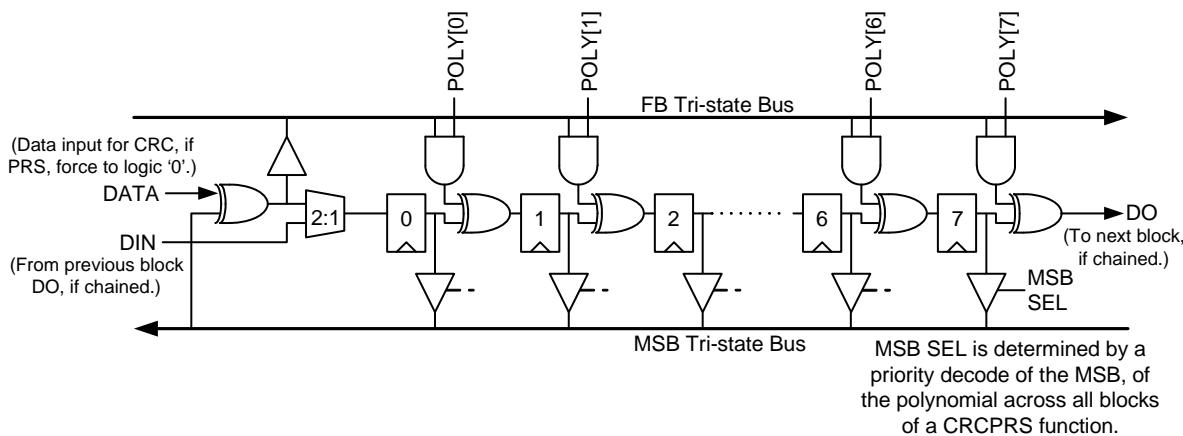

Figure 17-4. CRCPRS LFSR Structure
A Cyclic Redundancy Check/Pseudo Random Sequence (CRCPRS) function consists of a polynomial register, a **Linear Feedback Shift Register (LFSR)**, and a seed register. (See Figure 17-4 on page 340.) When the CRCPRS block is disabled and a **seed value** is written into DR2, the seed value is also loaded into DR0. When the CRCPRS is enabled, and synchronous clock and data are applied to the inputs, a CRC is computed on the **serial** data input stream. When the data input is forced to '0', then the block functions as a pseudo random sequencer (PRS) generator with the output data generated at the clock rate. The most significant bit (MSb) of the CRCPRS function is the primary output.
The LSFR (Linear Feedback Shift register) structure, as shown in Figure 17-4, is implemented as a modular **shift** register generator. The least significant block in the chain inputs the MSb and XORs it with the DATA input, in the case of CRC computation. For PRS computation, the DATA input is forced to logic 0 (by input selection); and therefore, the MSb bus is directly connected to the FB bus. In the case of a chained block, the data input (DIN) comes directly from the data output (DO) of the LFSR in the previous block. The MSb selection, derived from the priority decode of the polynomial, enables one of the tri-state drivers to drive the MSb bus.